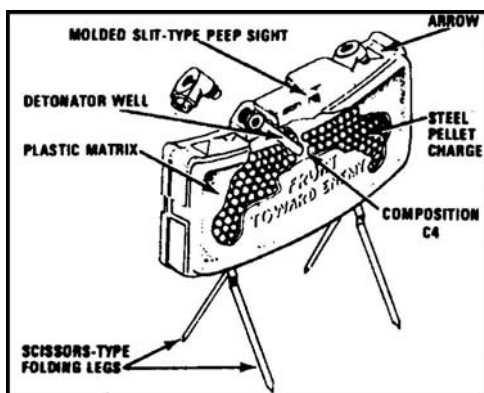

Figure 071-325-4425-5. Placing and aiming the mine
- b. Open both pairs of legs to a 45-degree angle with two legs facing to the front and two legs facing to the rear of the mine (figure 071-325-4425-5).